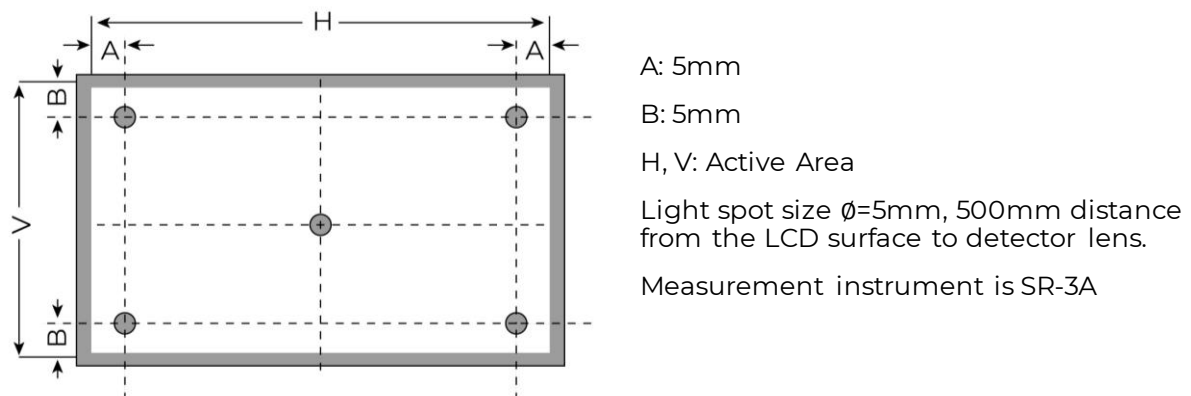

Figure 3. Measuring method for Contrast ratio, surface luminance, Luminance uniformity, CIE (x, y) chromaticity
Note 1. Contrast Ratio (CR) is defined mathematically as below, for more information see Figure 3.
Note 2. Surface luminance is the LCD surface from the surface with all pixels displaying white. For more information see Figure 3.
Note 3. The uniformity in surface luminance δ WHITE is determined by measuring luminance at each test position 1 through 5, and then dividing the minimum luminance of 5 points luminance by maximum luminance of 5 points luminance. For more information see Figure 3.